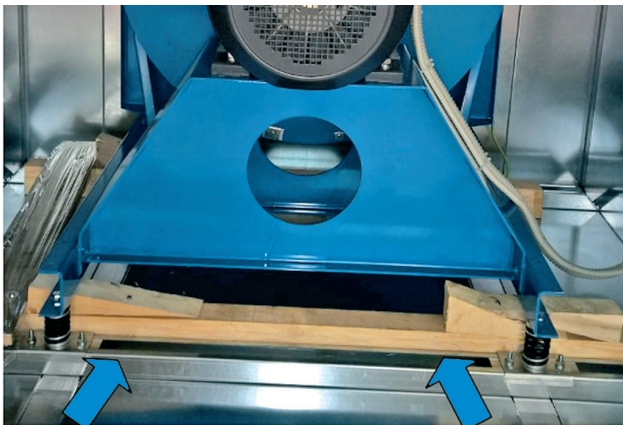
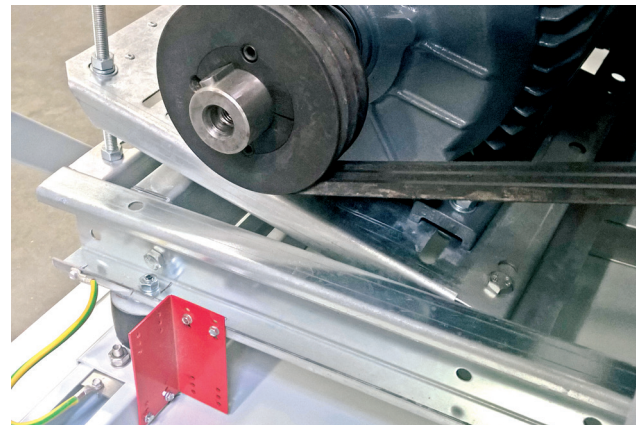

Figure 8
Figure 9
- Blocks may be wooden (Figure 8) or red coloured steel joint brackets (Figure 9) screwed on the bottom to the housing frame and on the top to the fan-electric motor assembly section.